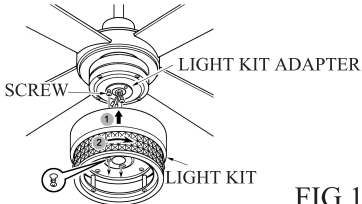

FIG.13
2. Mount the light kit plate on the loosened screw in the light kit adapter and twist the light kit plate until the two round holes on lighth kit plate align with the holes on light kit adapter. (see Fig.13)